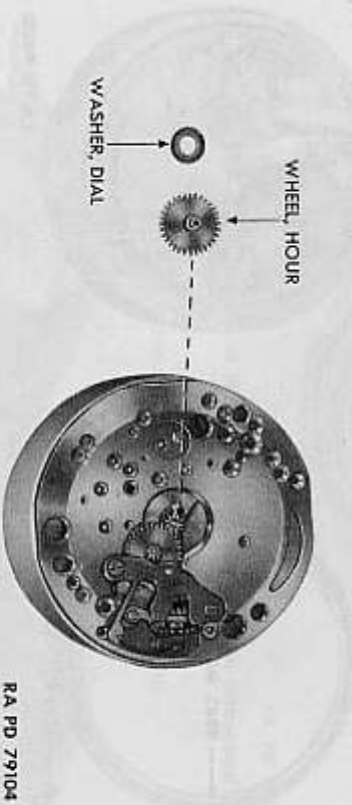

Figure 172 — Bulova Wrist Watch — Hour Wheel Removed
- i. Remove Hour Wheel (fig. 172). Grasp the hour wheel with tweezers, lift it off cannon pinion, and remove brass dial washer.
- o. Replace Hour Wheel and Dial Washer (fig. 172). Replace the hour wheel and dial washer.